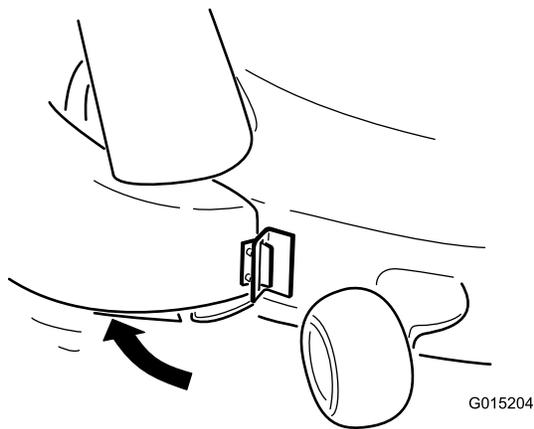

Figure 20
- Pivot the chute back and toward the deck so chute is flush with the mower deck (Figure 20).